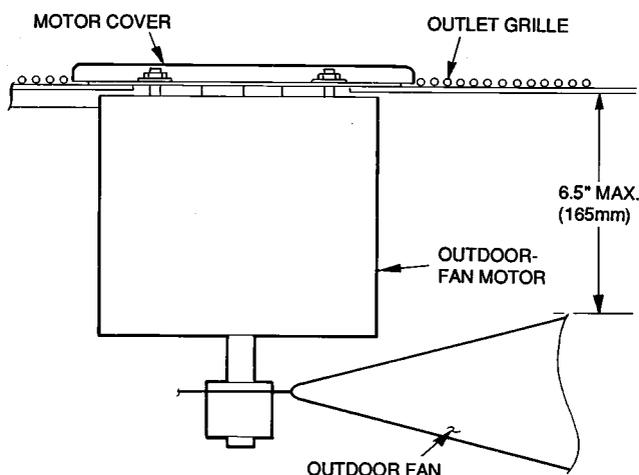

Fig.24 — Outdoor-Fan Adjustment
Outdoor-Fan Adjustment (Fig. 24)
3. Adjust fan height as shown in Fig. 24.